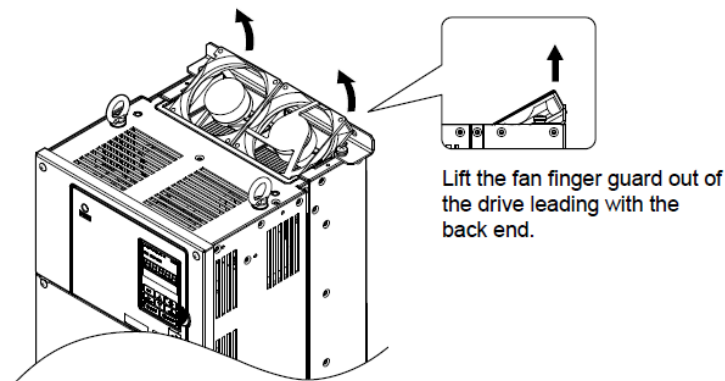

FIGURE 9-12 VFD Fan Disconnect / Removal
3. Lift out the back end of the fans first. Unplug the relay connector and free the fans from the drive per Figure 9-12.